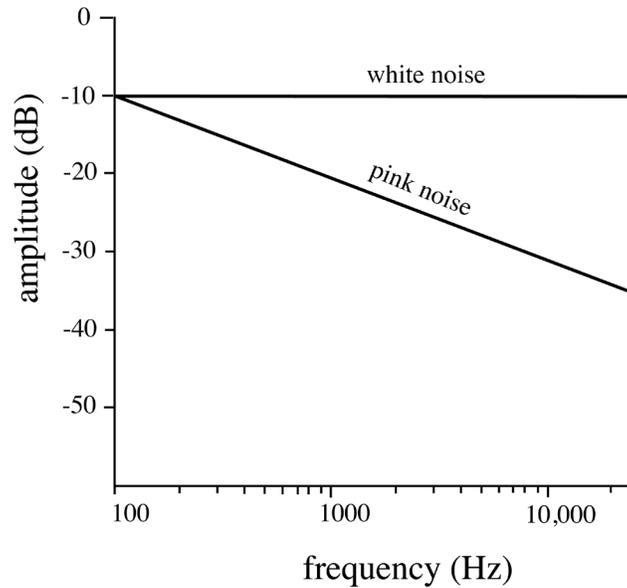

Figure 3: White and pink noise spectra.
**Noise:** Noise is often used as a convenient test signal since it contains all frequencies at once. Noise can be generated to contain different balances of frequencies based on the energies of the individual sinusoidal frequency components. When each cycle contains the same amount of energy, it is known as white noise. Thermal noise, also known as Johnson noise, is an example of white noise. When each octave contains the same energy, it is called pink noise. Pink noise is also known as 1/f noise, since the energy/Hz decreases with increasing frequency. Pink noise amplitude decreases 3 dB per octave or 10 dB per decade, thus it decreases 30 dB over the three-decade audible range of frequencies. White noise is audible much brighter sounding than pink noise. Pink noise is most commonly used in audio and acoustic measurements as it more closely relates to how the auditory system perceives loudness. Figure 3 shows a comparison of the amplitude spectra of white and pink noise.